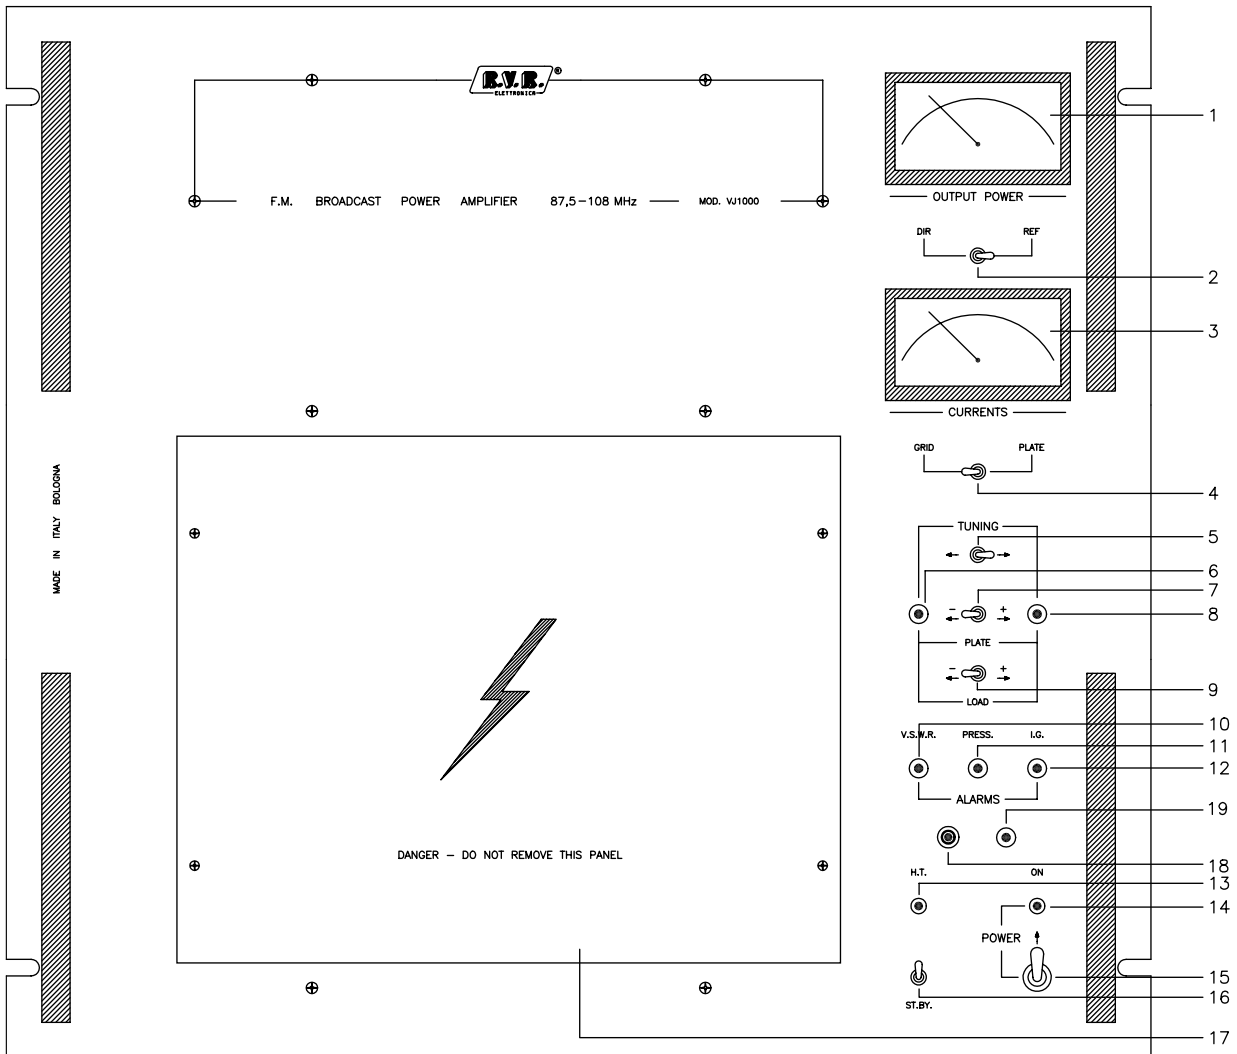

FIG. 1
FRONT PANEL'S VIEW DESCRIPTION (FIG. 1)
- 1) Unscrew the screws holding the high voltage front panel (17 Fig.1) and open it.